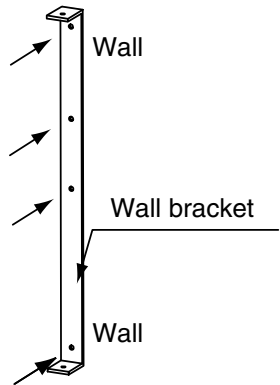

Figure 1
- ① Use wall bracket to mark off and drill attachment holes in wall.
- ② Mount wall bracket. Make sure bracket is vertically level (See Fig. 1).